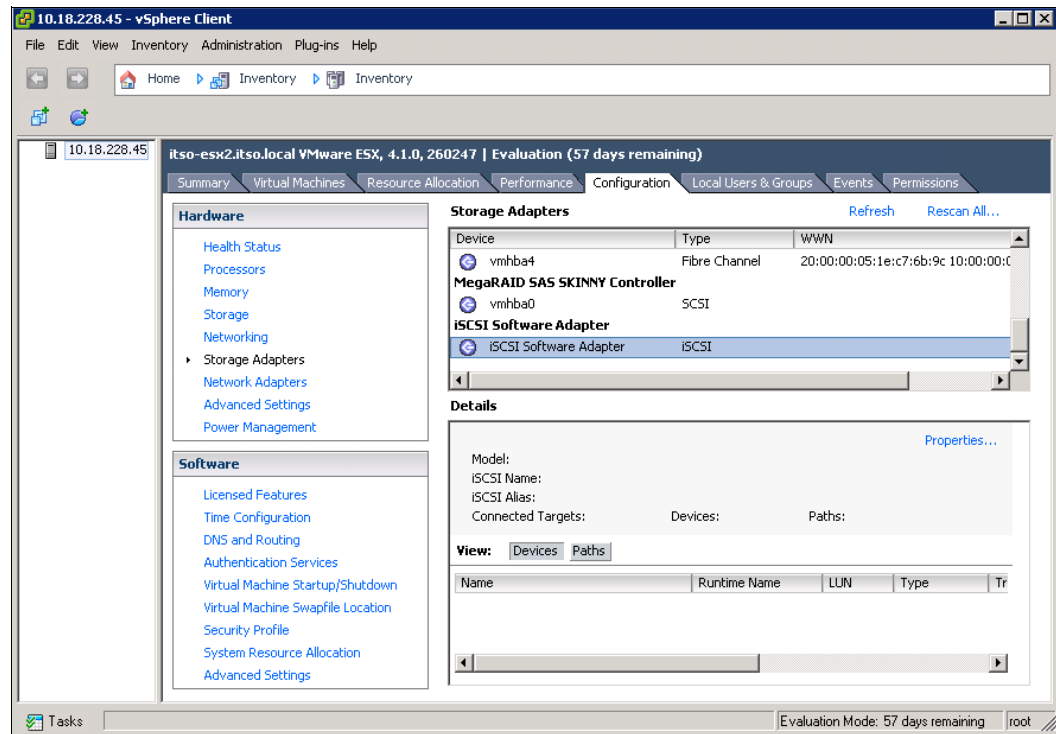

Figure 4-13 VMware: iSCSI Software Adapter
7. Select **Storage Adapters** and scroll to iSCSI Software Adapter (Figure 4-13). Highlight it and click **Properties**.